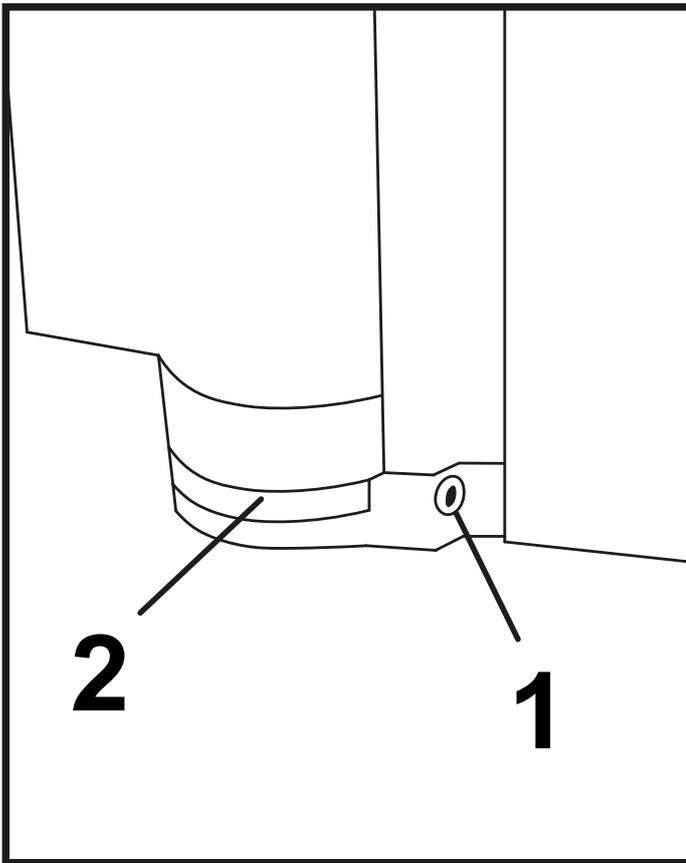

Figure 20
22. To adjust the mono hinge, loosen both mounting screws (1) on the washer by a few turns using the included Allen key. (Figure 20)
23. Move the glass (2) to the desired position where you want to secure the door.
24. Once the glass (2) is in the desired position, tighten the washer mounting screws (1).